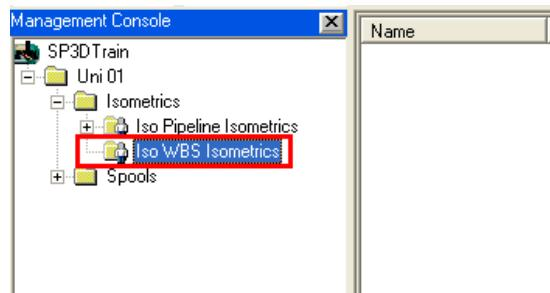

Figure 37: Management Console
39. In the **Management Console** and expand the drawing hierarchy to **Unit 01>Isometrics>Iso WBS Isometrics**, as shown in Figure 37. SP3D displays a message box. Click **OK** to continue.